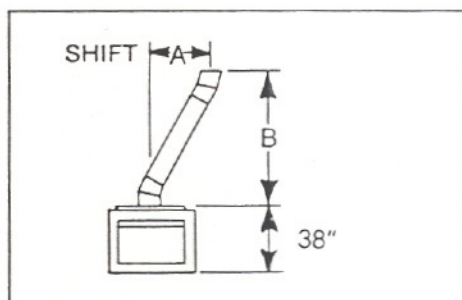

Figure 11
Figure 11 and Table 1 enable selection of the appropriate chimney components when using offsets and returns.
1. Determine amount of offset required to extend chimney through wall or around obstacle. See Figure 11, dimension "A".